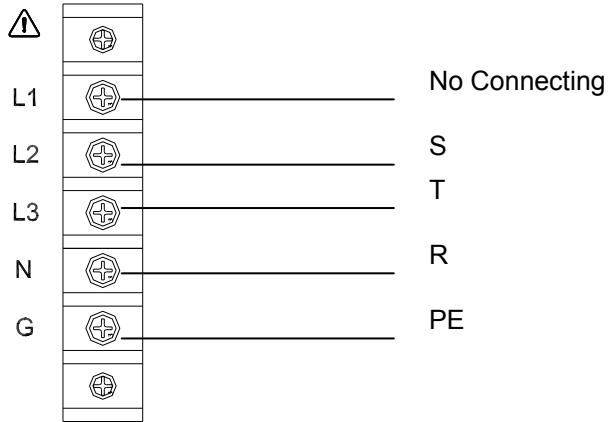
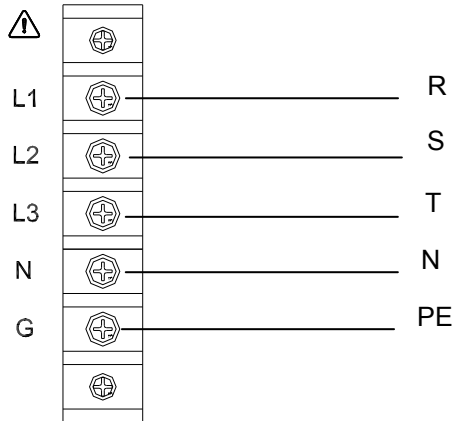

Figure 2-1 220 3~ Δ Input Connection
Figure 2-2 380 3~Y Input Connection
2. Screw the power cord to the input terminal blocks of the AC source (see Figure 2-1 and Figure 2-2).